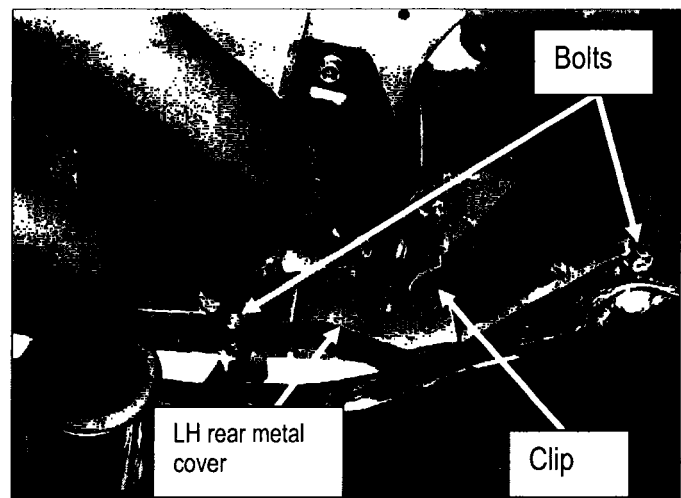

Figure 7
10. Below the plastic cover you just removed: remove two bolts and one clip and remove the driver's (LH) side rear metal cover (see Figure 7).